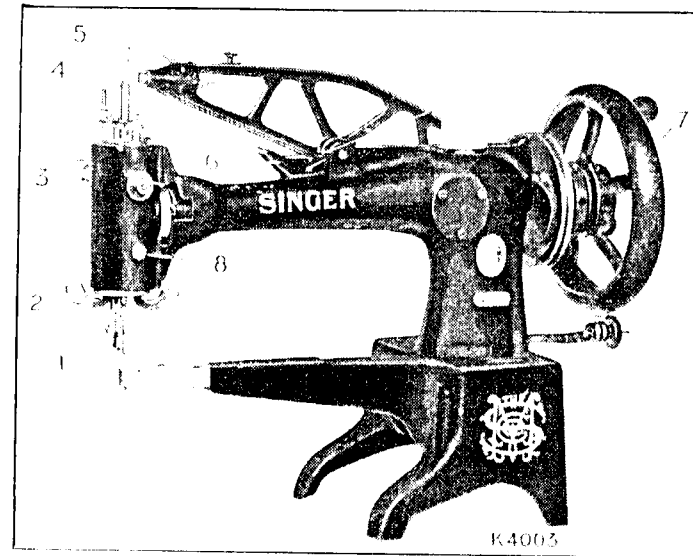
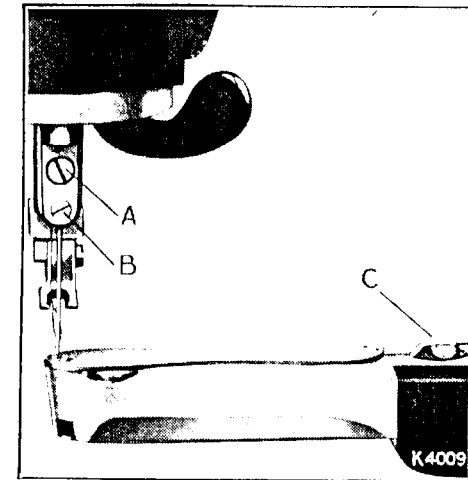
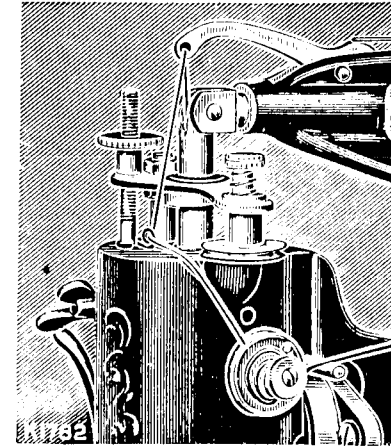
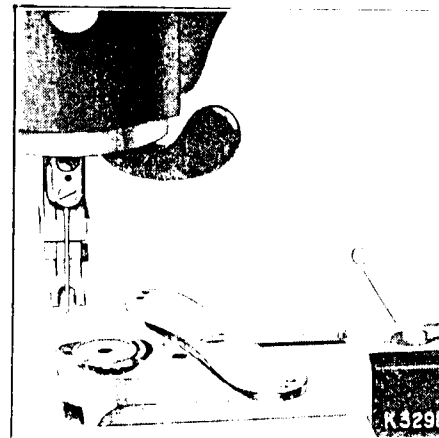

Fig. 1
Fig. 3.
Fig. 5.
Fig. 11.
(See Fig. 1)
Raise the needle bar (4, Fig. 1) to its highest, loosen the screw (B, Fig. 3) and insert the shank of the needle up into the needle clamp as far as it will go, with the long groove of the needle to the left, and its eye directly in line with the arm of the machine. Tighten the screw (B). Loosen the screw (A) and move the clamp to right or left until the needle passes through the centre of the hole in the needle plate, then tighten screw (A).
Place a reel of thread on the spool pin on the arm of the machine, so that the thread will draw from the back. Raise the wire guide in the oil cup (6, Fig. 1) on the top of the arm and, after passing the thread under the wire guide, press it back into position. Then pass the thread at the back of the pin which is near the tension discs on the top of the machine head, from back to front and right to left
between the tension discs, into the wire thread eyelet, and up and from front to back through the hole in the end of the take-up lever (5, Fig. 1). Draw about 10 inches of thread and insert the end into the slit in the end of the threading wire supplied with the machine. Now pass it from the
(See Fig. 5)
Raise the wire guide in the oil cup (6, Fig. 1) on the top of the arm and, after passing the thread under the wire guide, press it back into position. Then pass the thread over the pin near the tension discs in front of the arm (see Fig. 5), from right to left under and between the tension discs, up into the wire eyelet on
top of the arm of the machine, and from front to back through the hole in the end of the take-up lever (5, Fig. 1). Draw about 10 inches of thread and insert the end into the slit in the end of the threading wire supplied with the machine; pass it from the back of the lever (5, Fig. 1) down through the hole in the centre of the needle bar, and from left to right through the eye of the needle, leaving an end of thread 3 or 4 inches long with which to commence sewing.
Raise the needle bar to its highest point and lift the feeding foot (1, Fig. 1) by means of the lifter (3, Fig. 1). Press down the lever (C, Fig. 11) and swing the needle plate round, as shown in Fig. 11. Turn the balance wheel until the point of the shuttle is nearest you, then lift out the shuttle with the thumb and fore-finger; turn it over and the bobbin will drop out.
After threading the shuttle, turn the balance wheel until the upright part of the shuttle carrier is to the right. Then, with the point of the shuttle nearest you, and pointing towards the right, drop it into the recess provided, as shown in Fig. 11.
Raise the needle bar to its highest point by turning the balance wheel, lift the feeding foot by means of the lifter (3, Fig. 1), and draw the material backward about 3 inches; then, cut the threads close to the work. Leave both ends of thread under the feeding foot.